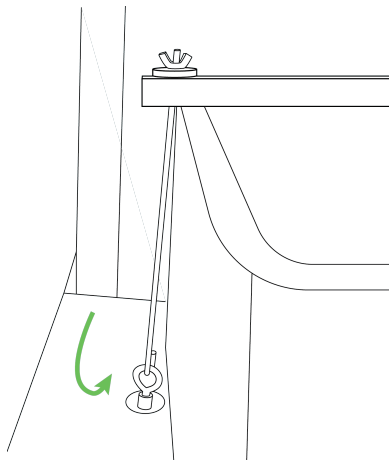

Figure 6-46. J-hook looped around one of the eyebolts
4. Swing the metal assembly over the printer and loop the J-hooks through the installed eyebolts on the floor of the printer compartment, on either side of the printer (Figure 6-46).